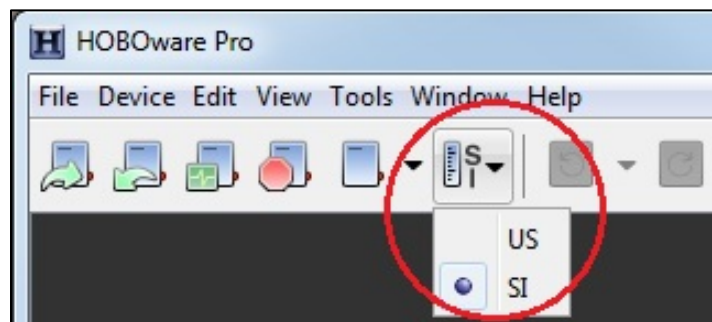

Figure B 2. Select appropriate units.
3. Make sure appropriate units are selected (US or SI (=metric)) on the main menu bar (Figure B 2).